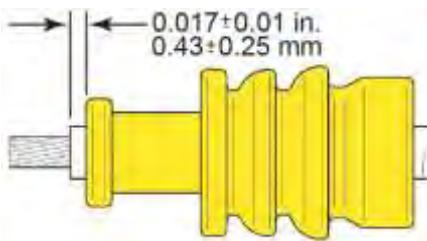

Figure 130
(5) Position the wire seal 0.017 ± 0.01 (0.43 \pm 0.25 mm) inches from end of insulation (Figure 130).